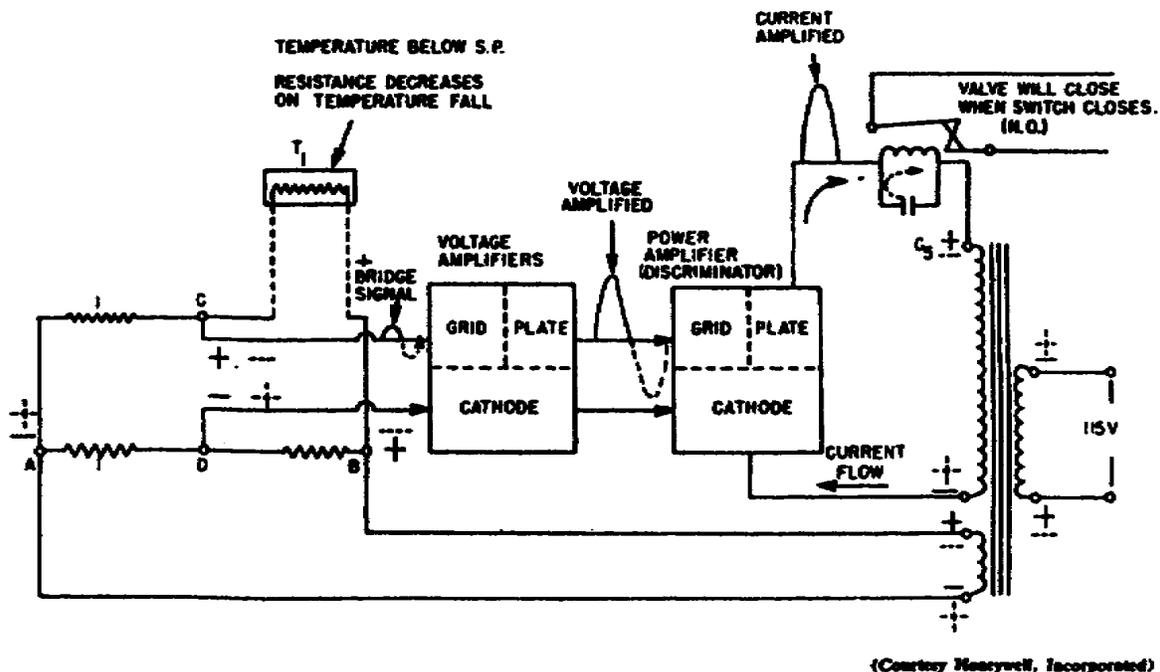

Figure 131. Two-position control.
7. The bridge supply voltage must come from the same phase as the discriminator supply, shown in figure 131. Supplying voltage from the same phase insures a bridge signal that is either in phase or 180° out of phase
8. The control grid of the discriminator is biased at cutoff; therefore, it will conduct only when the plate and the amplified bridge signal are both positive. With the temperature below set point, as in figure 131, point C will have the same polarity as point B (the resistance of  $T_1$  decreased); and will cause bridge signal to